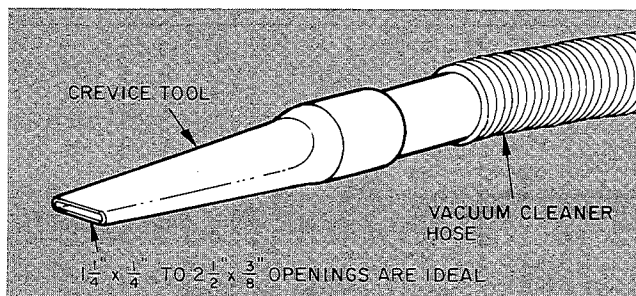

Fig. 25 — Crevice Cleaning Tool
3. Clean coil using vacuum cleaner and its crevice tool (see Fig. 25). Work crevice tool *vertically* making sure tool only touches dirt on fins. To prevent fin removal, do not "scrub" fins with tool or move tool horizontally.